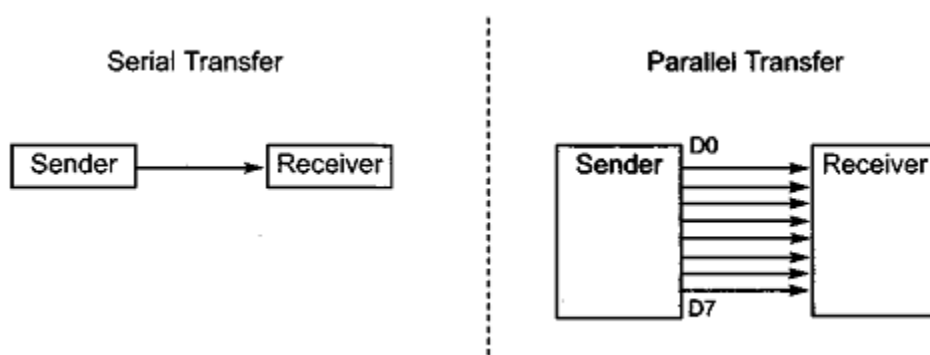

Figure 4-1. Serial versus Parallel Data Transfer
2. This can work only if the cable is not too long, since long cables diminish and even distort signals. Furthermore, an 8-bit data path is expensive. For these reasons, serial communication is used for transferring data between two systems located at distances of hundreds of feet to millions of miles apart. Figure 4-1 diagrams serial versus parallel data transfers.